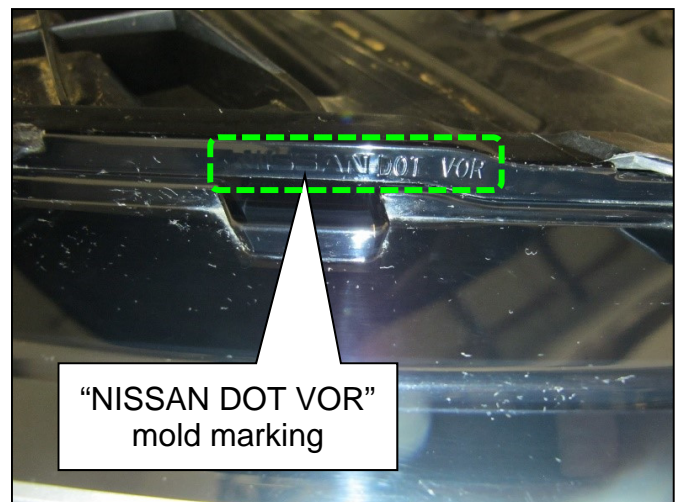

Figure 4
4. Visually locate the “NISSAN DOT VOR” mold marking (Figure 4).